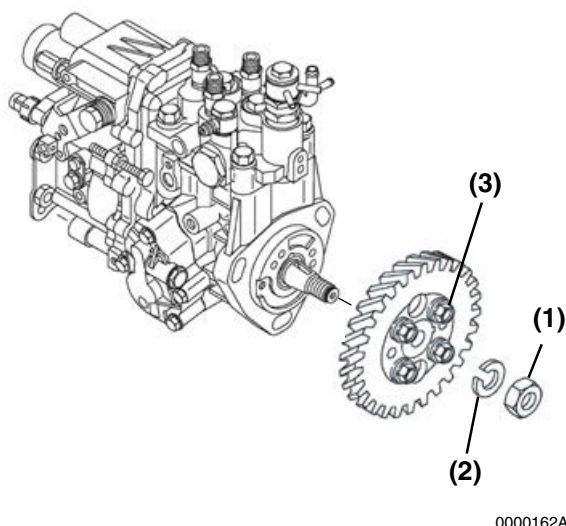

Figure 7-12
18. Do not loosen or remove the four bolts (**Figure 7-12, (3)**) retaining the pump drive gear to the hub. Only remove the single drive gear nut (**Figure 7-12, (1)**) and washer (**Figure 7-12, (2)**), leaving the hub attached to the gear.
19. Hold the gear train using a large socket wrench on the crankshaft pulley nut. Loosen the fuel injection pump drive gear retaining nut (**Figure 7-12, (1)**) and turn it out to the end of the fuel injection pump shaft.